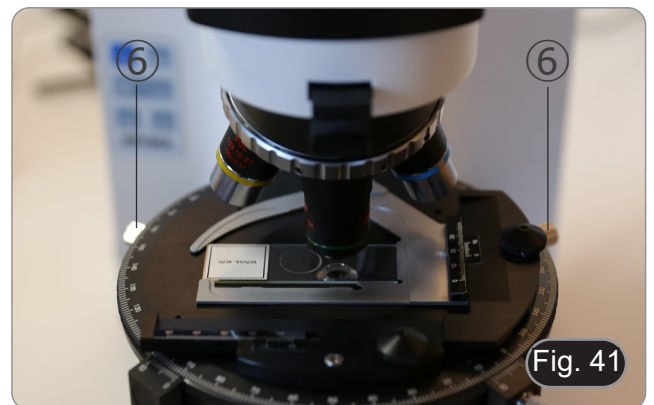

Fig. 41
7. Using the centering screws of the stage ⑥ move the detail in diametrically opposite direction to the described circle. The movement must be about half the diameter of the circle drawn. (Fig. 41)